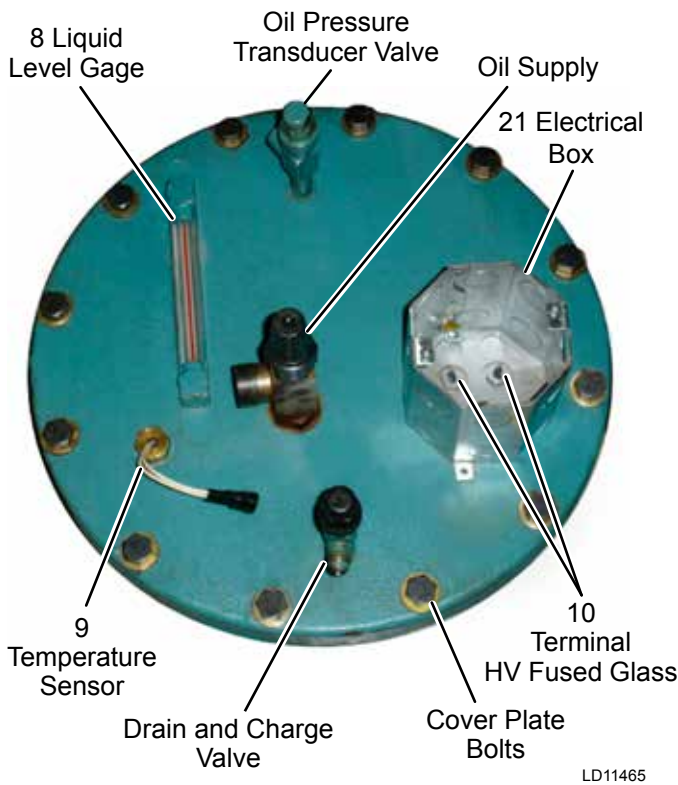

FIGURE 66 - OIL PUMP HOUSING COVER PLATE
4. Remove the 5/8" hex head bolts from the oil pump cover (see *Figure 66 on page 58*).